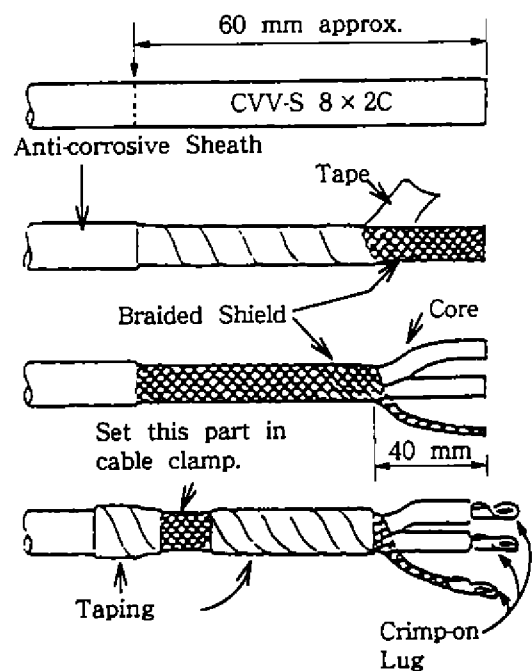

Figure 2-13 Fabricating power cable CVV-S 8 x 2C
- 2) Fabricate the end of the cable as shown in Figure 2-13.